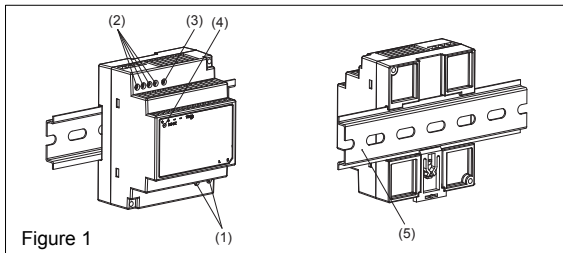

Figure 1
2. Device description (Fig. 1)
5.1. Input connection (Fig. 1 (1), Fig. 5)
Use L and N connections of input terminal connector (see Fig. 1 (1)) to establish the 100-240 VAC connection.
5.2. Output connection (Fig. 1 (2))
The output voltage can be adjusted from 24 to 28 VDC on the potentiometer. The green LED DC OK displays correct function of the output (Fig. 1 (4)). The device has a short circuit and overload protection and an over voltage protection limited to < 34.8 VDC